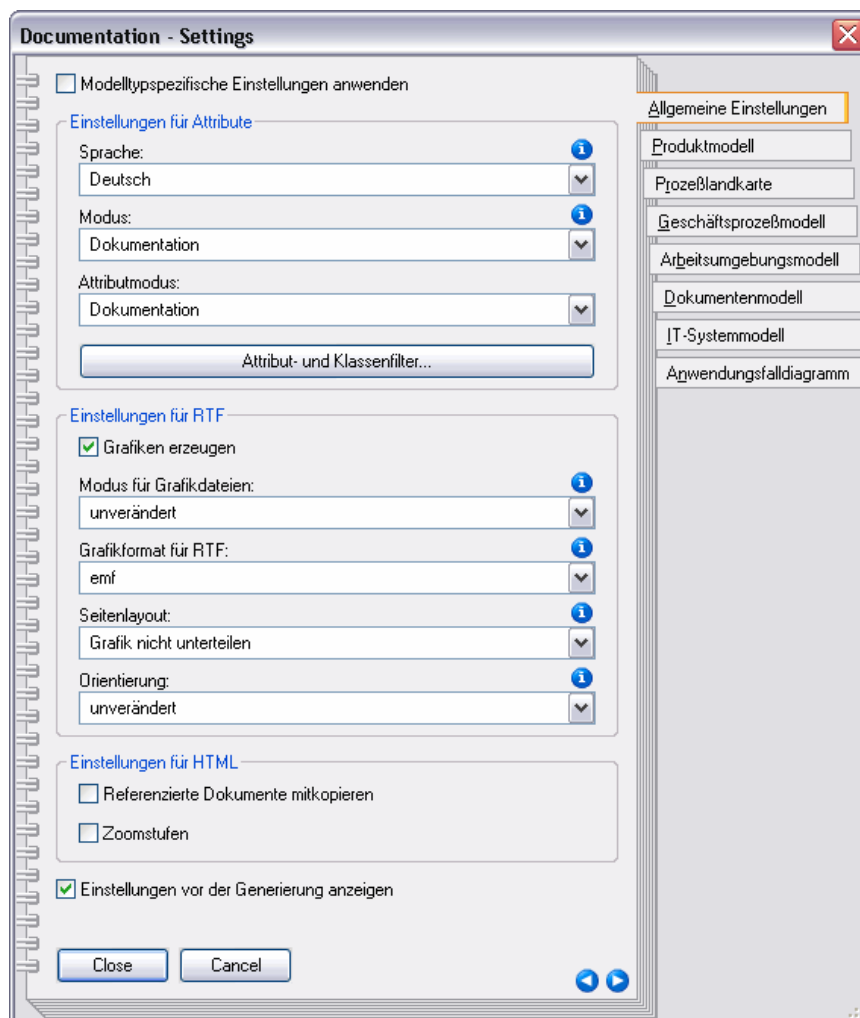

Figure 432: Documentation options of the ADOxx-Default-Library
Select the **"Options"** menu item from the **"Documentation"** menu to open the ADOxx Notebook in which the settings for the documentation can be made (see fig. 432).
**Hint:** The selection possibilities for settings which are available within the "Options - documentation" dialogue (see fig. 432) depend on the application library which you are using.
**ATTENTION:** If you deactivate the "Apply attribute and class filter settings" option, only the settings (see chap. 6.5.2, p. 488) defined in the "Documentation - settings" window (see fig. 432) will be applied.